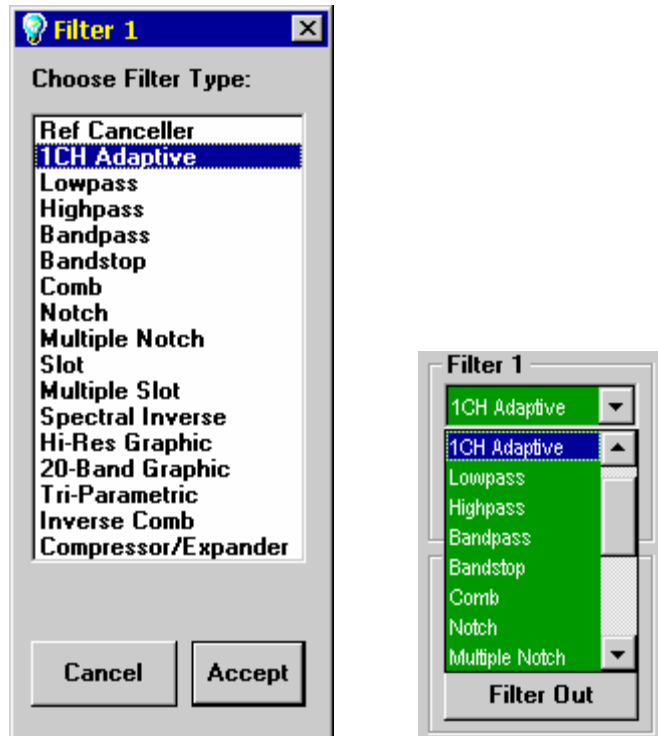

Figure 3-7 Tutorial Filter Selection Window and Combo Box
20. Click on the **Select** button in the Filter 1 block. A window similar to the one in Figure 3-7 will appear. Use the mouse to click on **1CH Adaptive**, then **OK**^{*}. The Filter 1 block should now indicate that the selected mode is 1CH Adaptive. Alternately, click the “down arrow” button on the Filter 1 combo box to select **1CH Adaptive** from the drop-down menu.